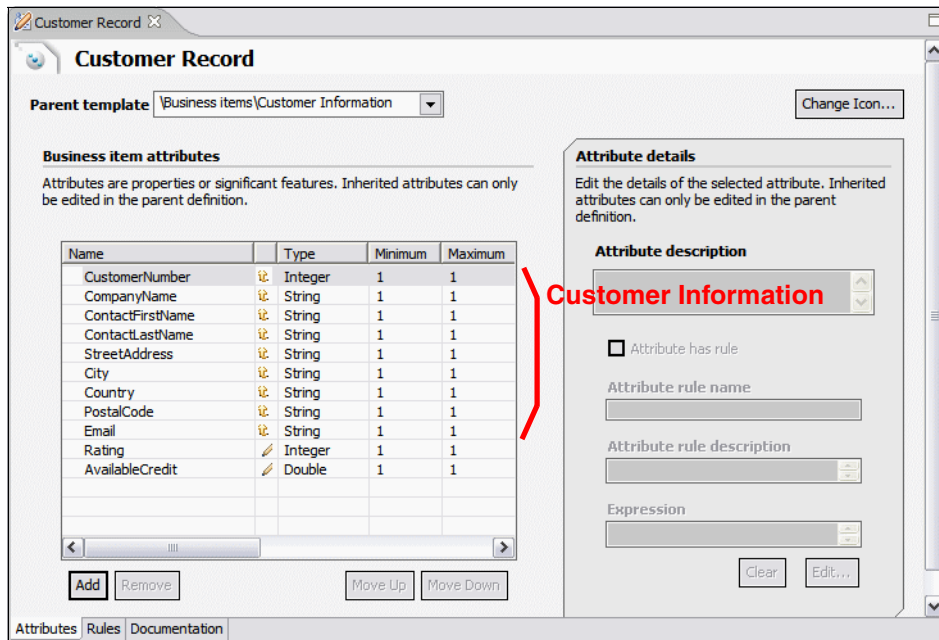

Figure 5-10 Business Item: Customer Record
- ▶ **Customer Record**—The data kept for a customer is composed of basic data coming from **Customer Information** and additional attributes, Rating, and AvailableCredit (Figure 5-10).